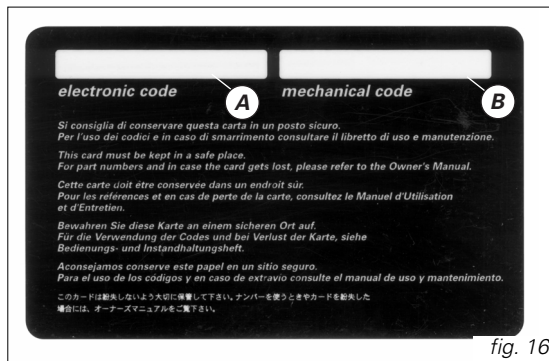

fig. 16
A) (fig. 16) the electronic code to be used in case of engine block, i.e. bike did not start after **key-ON**.
B) (fig. 16) the mechanical code for the keys to be reported to the DUCATI Service network when you are ordering any duplicate keys.